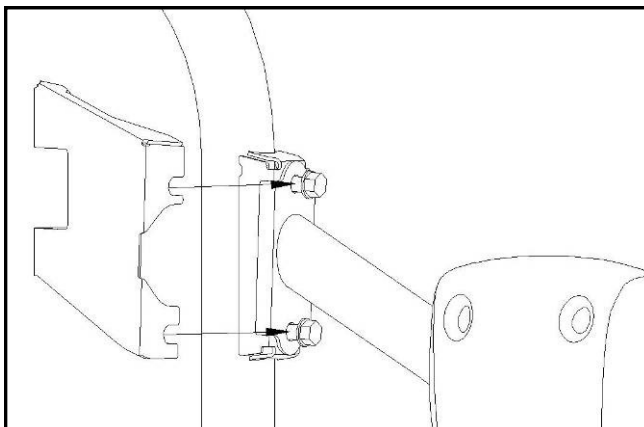

Figure 6.1 View of passenger's side
6.1 Remove and discard the two bolts shown in Figure 6.1 using a 14mm wrench. Install new bolts provided and install the bracket as shown so that the slots are fully engaged on the bolts. Tighten to 35 ft-lbs (47 N-m). Repeat for opposite side.